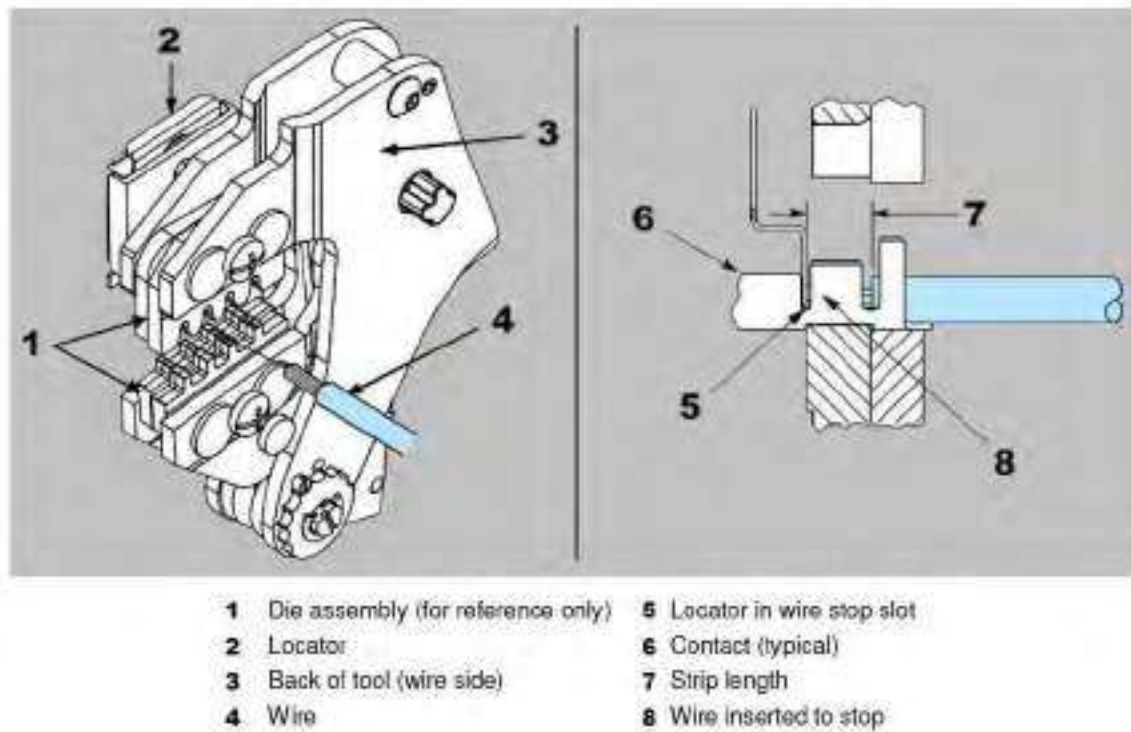

Figure 105
- (5) Hold the tool so that the back (wire side) is facing you (Figure 105). Squeeze the tool handles together and allow them to open fully.